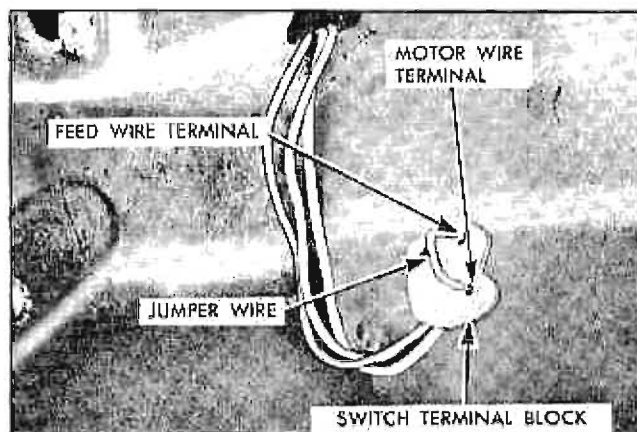

Fig. 8-4 Checking Window Control Switch
1. Insert one end of a 12 gauge jumper wire to the switch feed terminal and the other end to one of the motor lead terminals in the switch block. Repeat this check on the remaining motor lead terminal (Fig. 8-4).
2. Insert one end of a 12 gauge jumper wire to the switch feed terminal and the other end to one of the motor lead terminals in the switch block (Fig. 8-4).